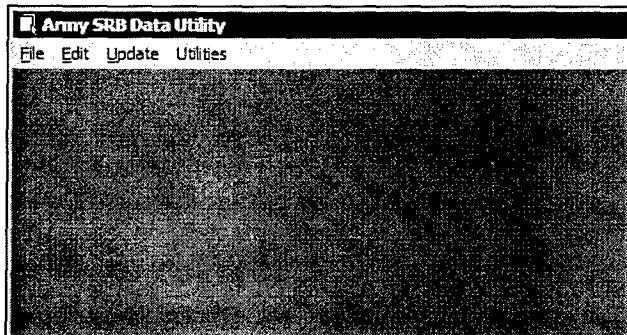

Figure 2. Main Screen
3. After successful login, you will see the opening screen shown in Figure 2.